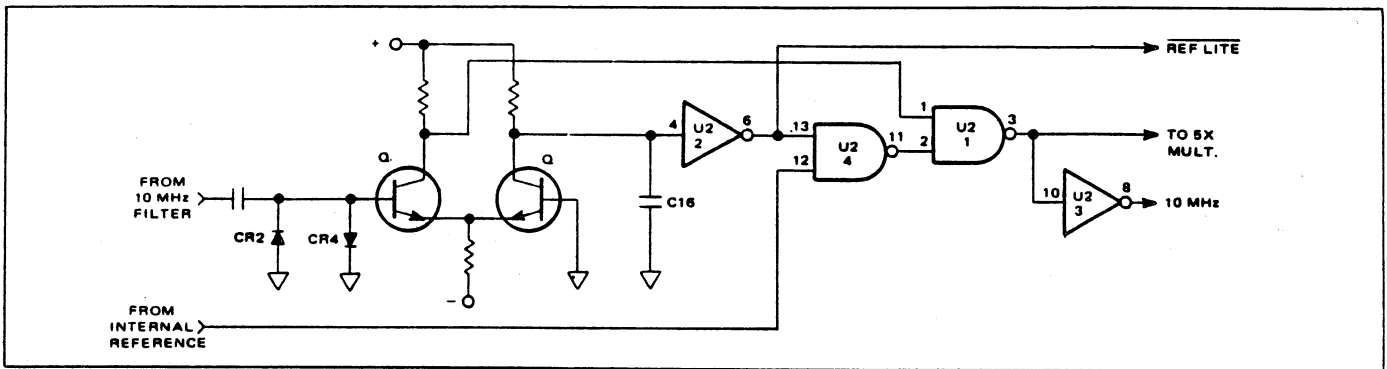

Figure 4.16 - Switch/Gate
4.4.5.5 The gate, shown simplified in Figure 4.16, consists of two differentially coupled transistors (Q3 and Q4) and three segments of a quad dual input Nand gate (U2). Because of the additional diode drop (CR3) between ground and the base of Q4, Q4, is biased off and Q3 is biased on when no signal is received from the filter. The logic low output